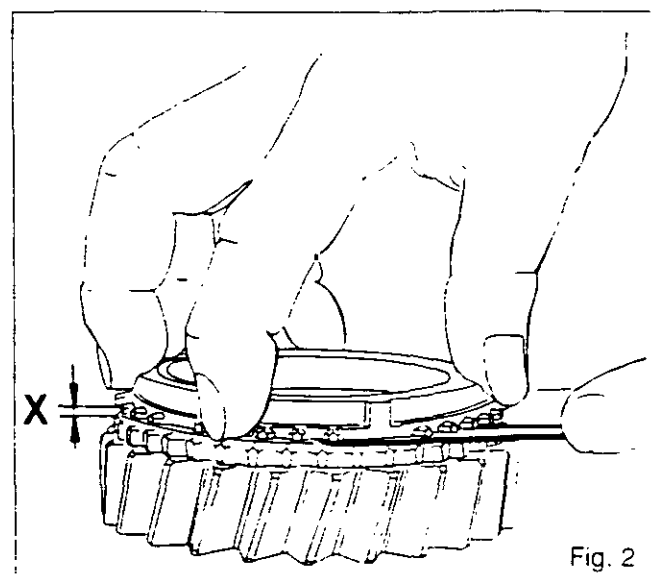

Fig. 2
Correctly position the brake (B) by turning it through several revolutions and applying hand pressure to it. Using a set of gauges, measure dimension X at several places (Fig. 2). If it is less than 0.8 mm, fit a new synchro brake (B), after checking the cone.
3. (Fig. 2) Remove:
- the PTO clutch hydraulic feed pipe (1),
- the engine clutch slave cylinder supply pipe (2),
- the T-piece (3) and 1.5 bar valve (4),
- the 90° oil return pipe connection (5),
- the Datatronic sensor and its bracket (6) (if fitted),
- the LH cab support (7)